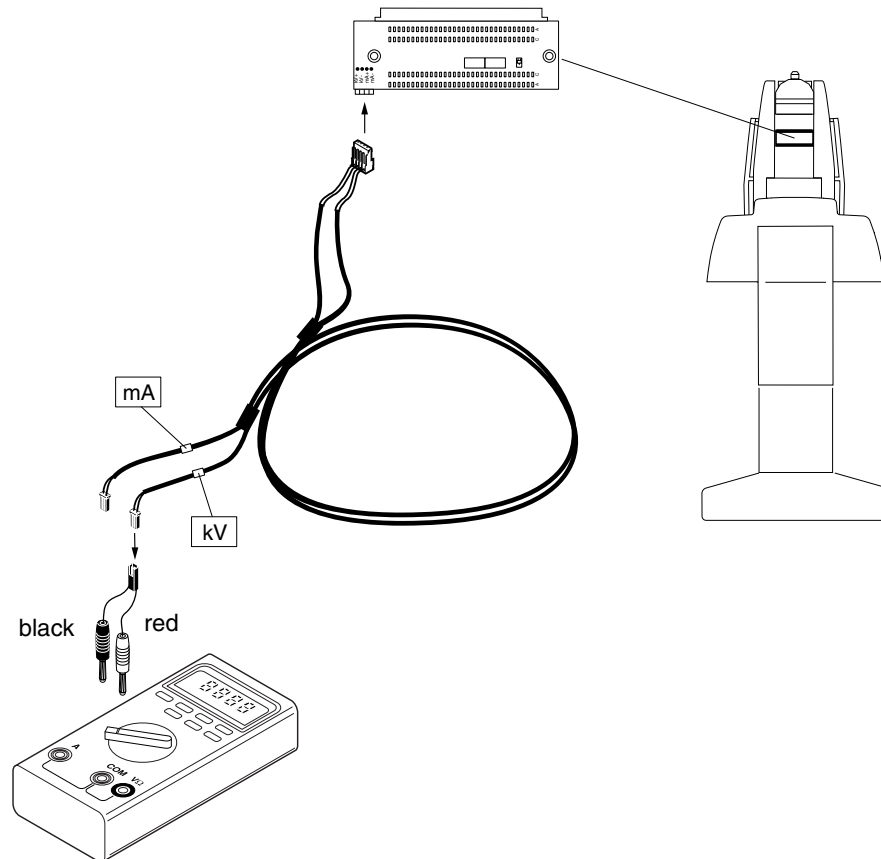

Figure E.1
- c) Connect the Feedback measuring kV cable to the connector P3 on the 109-10-15 PCB. The board is located in the rear end of the Power supply, see Fig. E.1.
- d) Connect the Feedback measuring cable to the connector P3 on the 109-10-15 PCB. The board is located in the rear end of the Power supply, see Fig. E.1.
- f) Switch the multimeter to the resistance range and record the mA feedback line resistance value (R) (nominal  $34\Omega$ ).
- l) Take an exposure and record the multimeter voltage value (U) during exposure. Record also the time reading on the display of MDH.
- m) The right current (I) value is calculated from the measured voltage value by dividing it by the measured resistance value, e.g.
- Connect the Feedback measuring cable to the connector P3 on the 109-10-15 PCB. The board is located in the rear end of the Power supply, see Fig. E.1.
- Switch the multimeter to the resistance range and record the mA feedback line resistance value (R) (nominal 34 $\Omega$ ).
- Take an exposure and record the multimeter voltage value (U) during exposure. Record also the time reading on the display of MDH.
- The right current (I) value is calculated from the measured voltage value by dividing it by the measured resistance value, e.g.